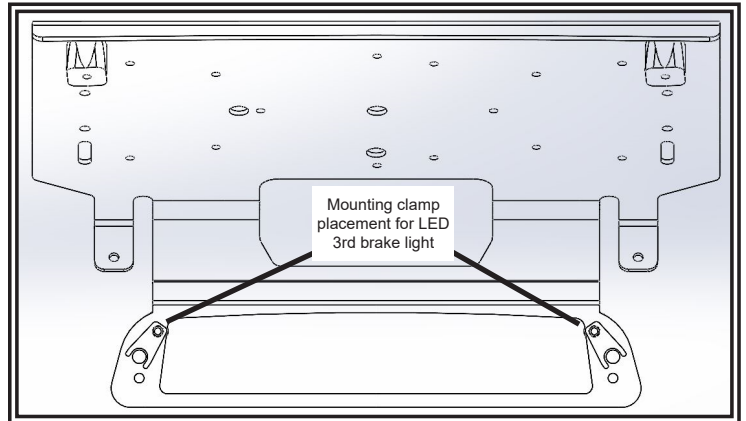
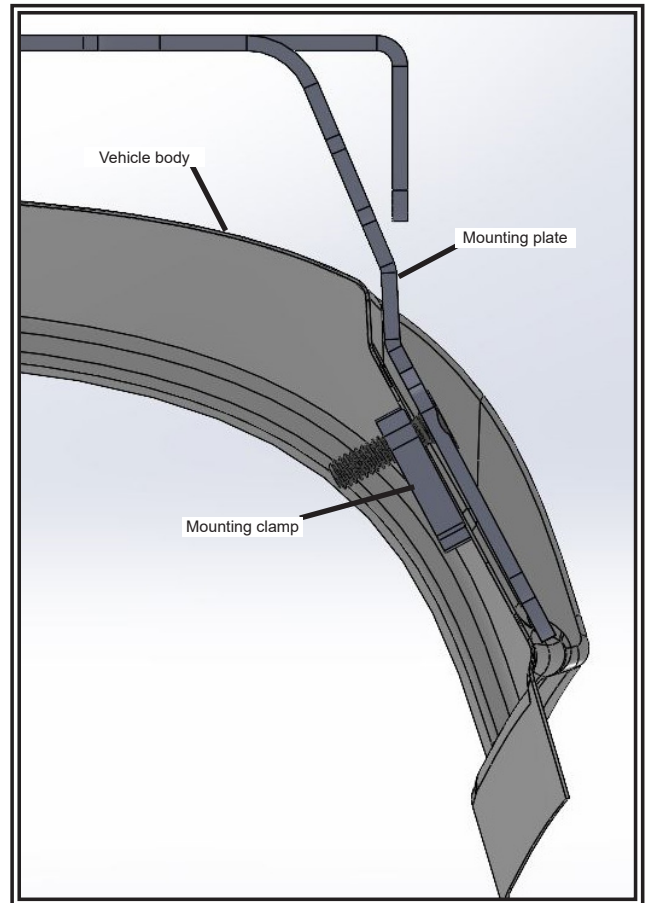

Figure 2
Figure 3
4. Place the mounting clamps inside the vehicle body in the position shown in FIGURE 2. The mounting clamps and the mounting plate should sandwich the body of the vehicle as shown in FIGURE 3. Hold the mounting brackets in place by hand and loosely secure into place with the supplied screws.